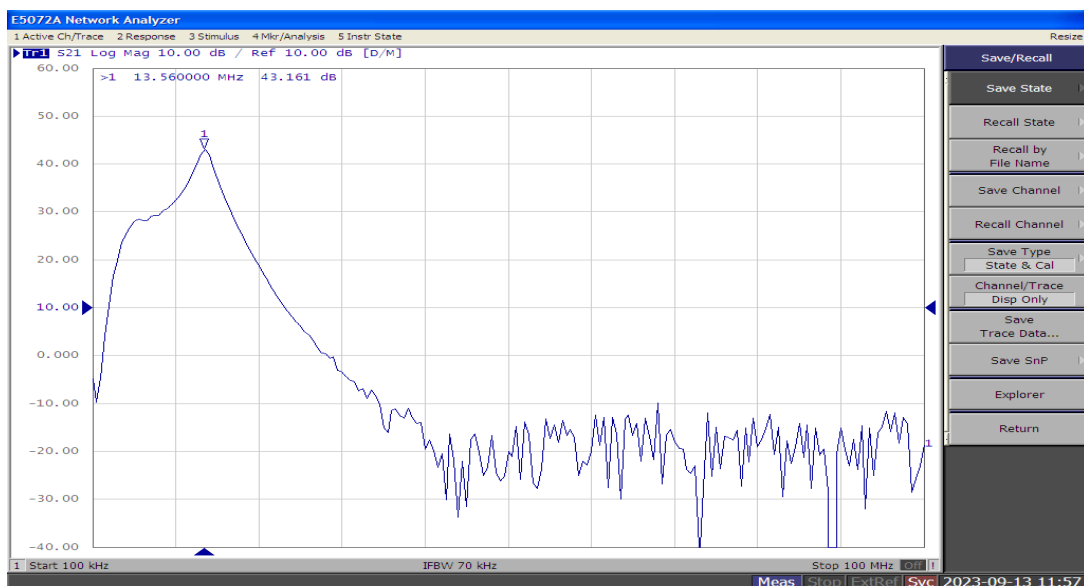

Figure 10 S21 (dB) over frequency (MHz), Vdd = 65V, Idq = 500mA, Pin = -20 dBm
- Figure 10 S21 (dB) over frequency (MHz), Vdd = 65V, Idq = 500mA, Pin = -20 dBm 8